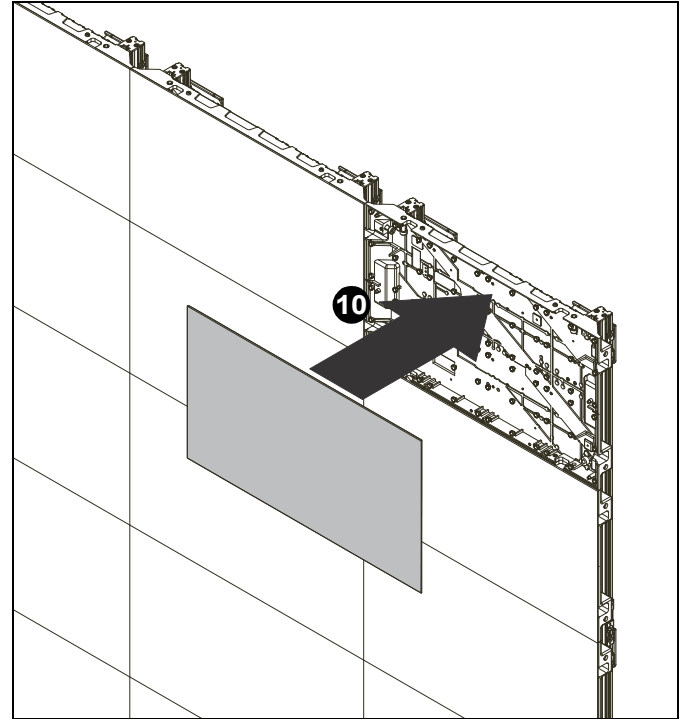

Figure 30
10. Install LED modules to displays (if necessary) to complete wall installation. (See Figure 30)